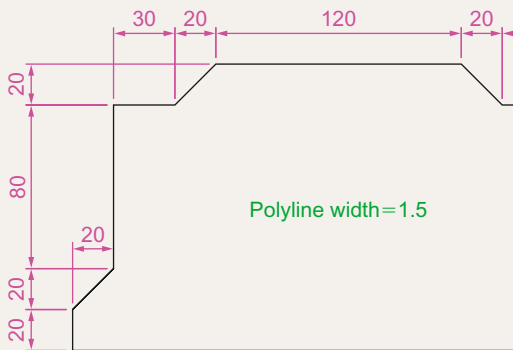

Fig. 2.34 Exercise 7
- Using the Polyline tool, construct the outline given in Fig. 2.34.